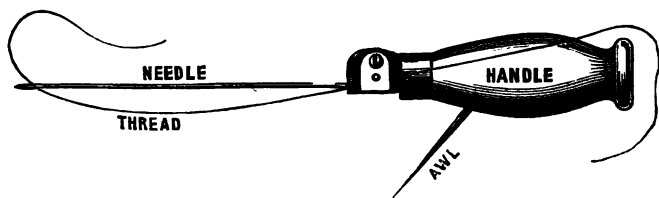

Fig. 44.
**The Patent Patching Needle.**—Fig. 44 represents the instrument used to supersede blind-stabbing. It is the